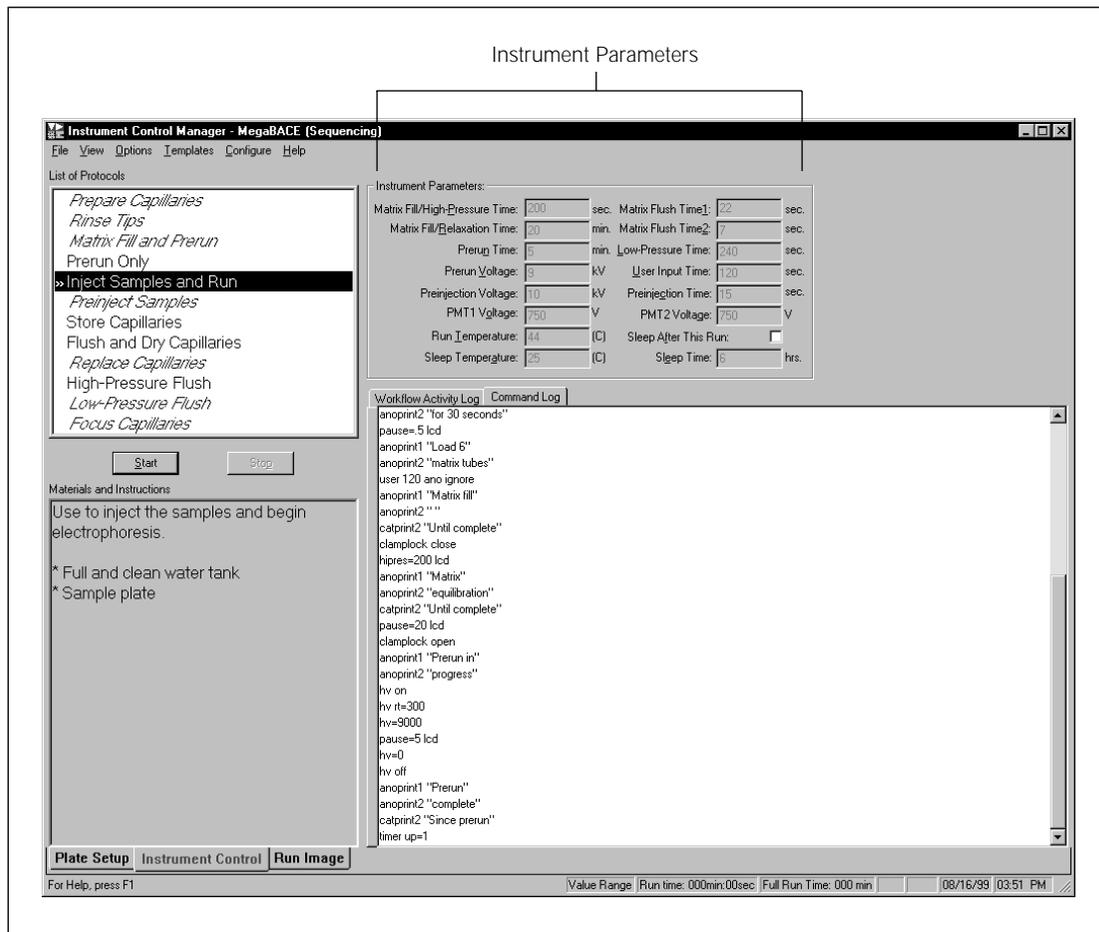

Figure 4-9. The Instrument Control window with the instrument parameters displayed for a sequencing run.
To view the instrument control parameters, click the **Instrument Control** tab. The Instrument Control window appears and displays the parameters in the Instrument Parameters area (figure 4-9).
The instrument injects the samples for the length of time and at the voltage set in the Instrument Parameters area of the Instrument Control window (figure 4-9).
1. In the Instrument Parameters area of the Instrument Control window (figure 4-9), type a **temperature** in the Sleep Temperature box.